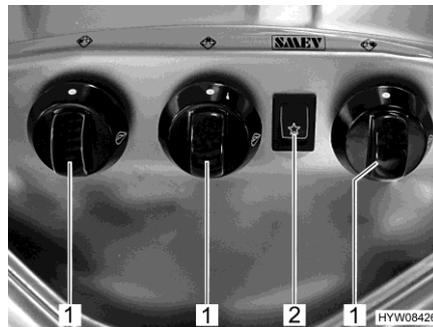

Fig. 181 Operating controls (gas cooker)
- Turn the control knob (Fig. 181,1) on the burner you wish to use to the ignition position (large flame).
- Press rocker switch (Fig. 181,2). Ignition sparks are generated at the burner.